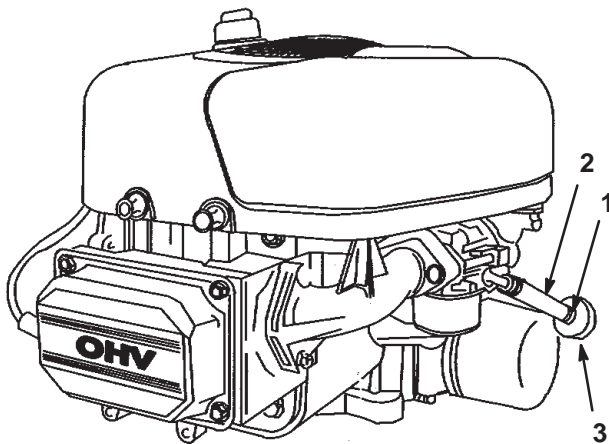

Figure 36
4. Loosen the hose clamp at the fuel filter and slide it up the fuel line away from the fuel filter (Fig. 36).
5. Pull the fuel line off of the fuel filter (Fig. 36).
7. Install the fuel line onto the fuel filter. Slide the hose clamp close to the fuel filter to secure the fuel line (Fig. 36).
4. Squeeze the ends of the hose clamps together and slide them away from the filter (Fig. 36).
6. Install a new filter and move the hose clamps close to the filter (Fig. 36).